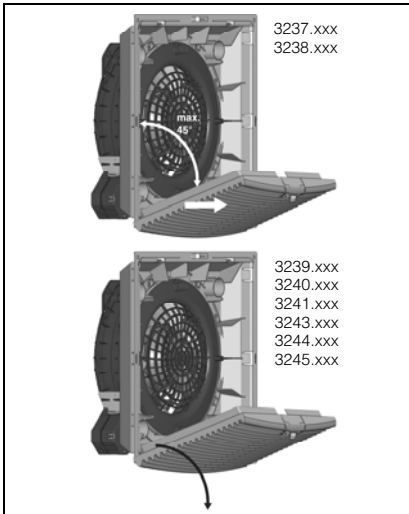

Fig. 2: Release the louvred grille
- To drill the lower holes, it is necessary to remove the louvred grille as shown in fig. 2